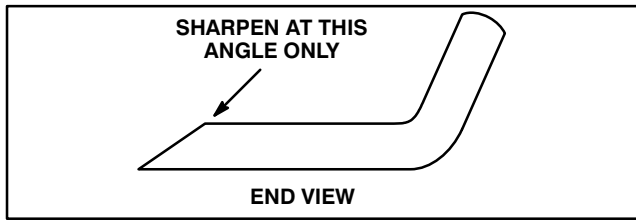

Figure 33
2. Inspect cutting edges of all blades. Sharpen the cutting edges if they are dull or nicked. Sharpen only the top of the cutting edge and maintain the original cutting angle to make sure of sharpness (Fig. 33). The blade will remain balanced if same amount of metal is removed from both cutting edges.